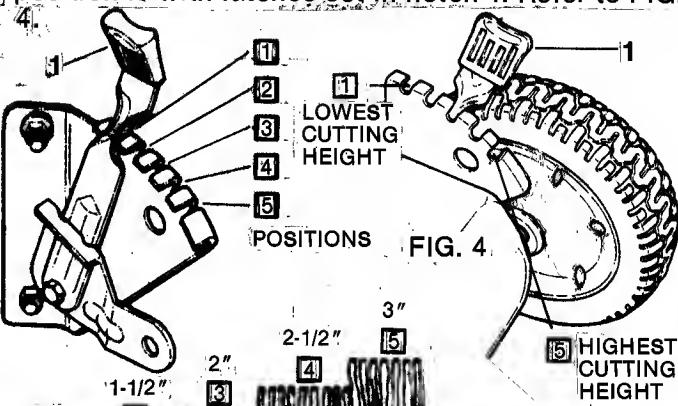

FIG. 4-A
- **CHECK** cutting height and adjust as needed, to suit the prevailing grass conditions. Refer to FIG. 4.
During dry seasons, allow the grass to grow taller than normal. Refer to FIG. 4-A.
NOTE: The highest cutting position is attained with the four latches set in notch 5. The lowest cutting position is with latches set in notch 1. Refer to FIG. 4.